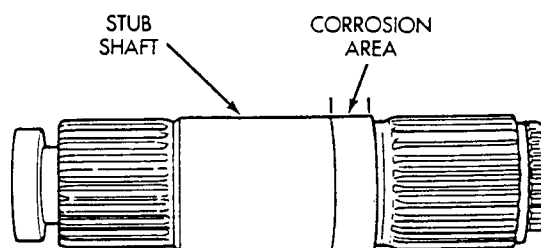

Fig. 7 Stub Shaft Corrosion
(7) Inspect stub shaft for corrosion (Fig. 7). If corrosion exists, wrap stub shaft with wax paper and install seal protector over wax paper.